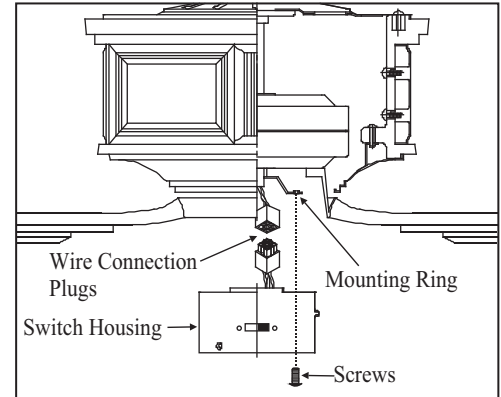

Figure 17
3. Place the key holes on the mounting plate over the 2 screws previously loosened from the mounting ring, turn mounting plate until it locks in place at the narrow section of the key holes. Secure by tightening the 2 screws previously loosened and the one previously removed. (Fig. 17)